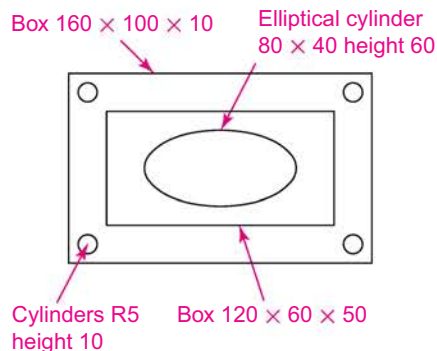
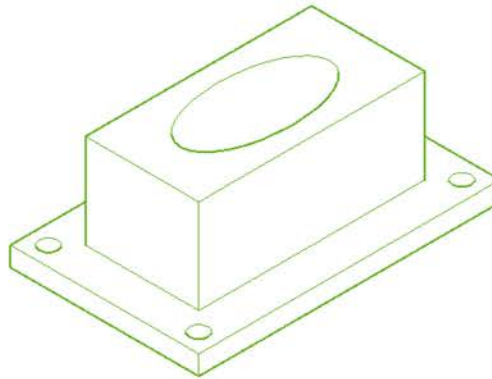

Fig. 9.29 Example – Chamfer and Fillet – sizes for the model
Fig. 9.30 Example – Chamfer and Fillet – isometric view – the model before using the Cylinder, Fillet and Chamfer tools
3. Working to the sizes given in Fig. 9.29 and using the **Box** and **Cylinder** tools, construct the 3D model Fig. 9.30.